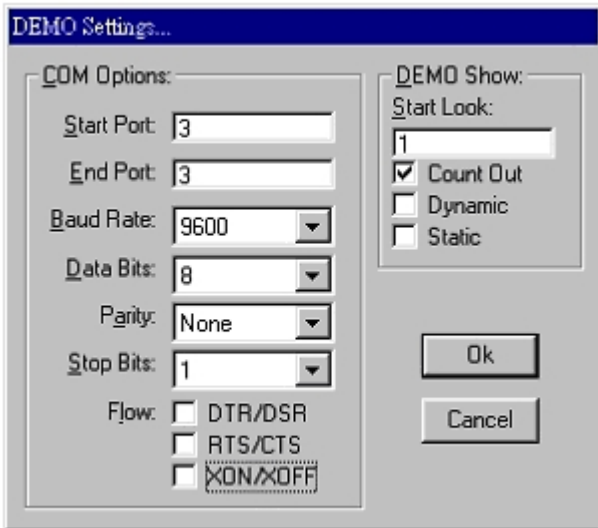

Fig.6
Step2. Click the “Setting” to set the RS-422 loop counter (See the Figure 6); your system will detect the COM3.